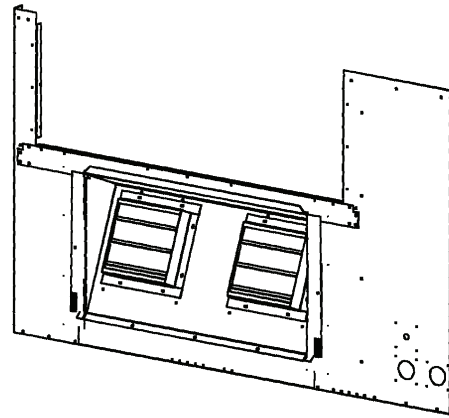

Fig. 12 — Power Exhaust/Relief Damper Assembly (Shown Folded)
4. Fold barometric relief assembly back into the unit. See Fig. 12 for assembly.